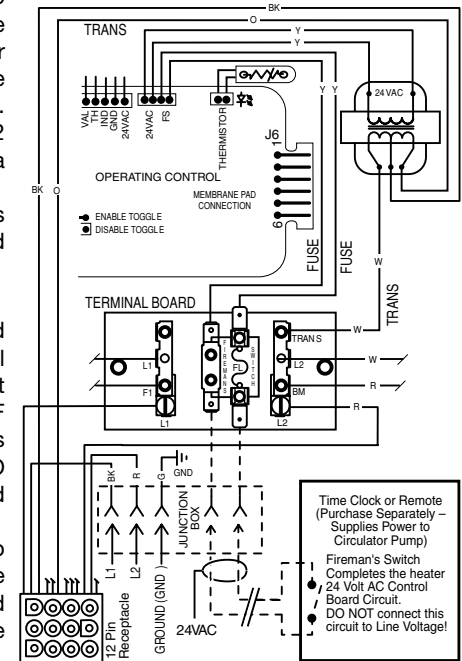

Figure 34.
- Connect wires between the Fireman's Switch terminals on the heater and the relay. Connect wires from the controller or timer to the Fireman's Switch. Controller, timer or relay should be sized to handle 24VAC at 0.5 Amp (because it will be completing the 24VAC control board circuit on the heater as shown in Figure 34). DO NOT apply line voltage to the Fireman's Switch terminals. Use 18 gauge wire with a minimum 1.2 mm (3/64 in.) thick insulation rated for a temperature rise of at least 105°C.
- Move jumper (as shown in Figure 34) to enable external control and to disable the heater membrane pad's "Pool ON" and "Spa ON" buttons (the "OFF" key on the membrane pad remains functional).